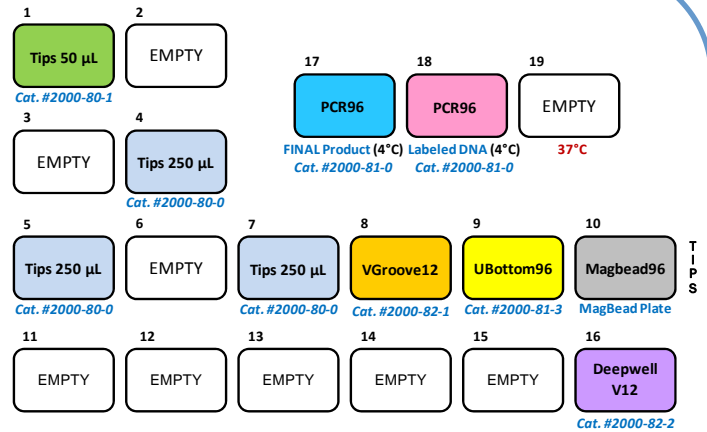

Figure 8. Deck layout for magnetic bead purification of 12 samples.
1. Ensure that all labware is placed on the correct positions on the ArrayPrep® instrument (Figure 8). Remove tips from bottom two rows of tip racks in positions 1, 4, 5 & 7, similar to Figure 2.